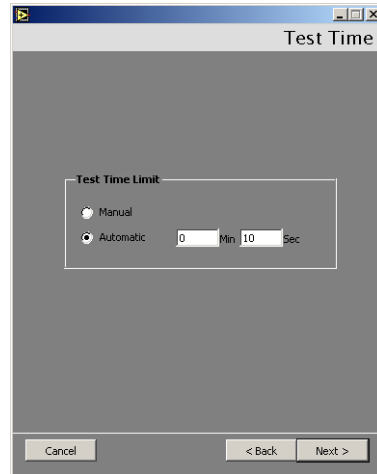

Figure 2-43 Test Time
14. Click **Next** and Figure 2-43 appears.